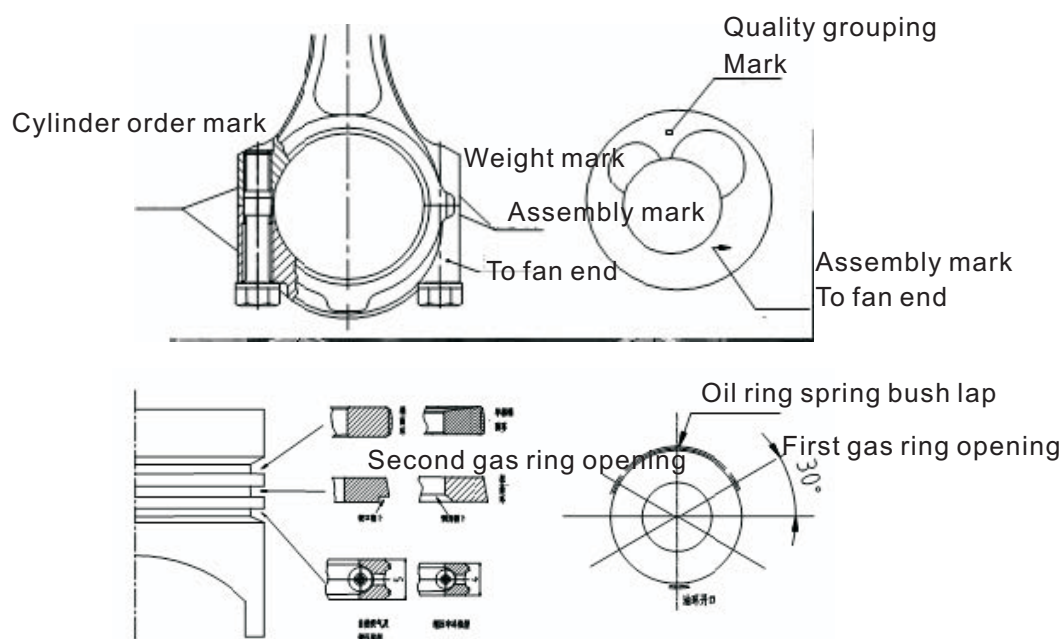

Fig. 4-8 Assembly of connecting rod piston and ring
The piston rings adopted for naturally aspirated, supercharged, and supercharged & intercooled engines have been described in Section 4.1.1. The difference in three models is as follows: (1) The piston rings and ring grooves on piston for naturally aspirated and supercharged models have the same installation dimensions (thickness of oil ring of 5mm). However, the chromate treatment is adopted for the excircle of first ring of naturally aspirated model, with sprayed molybdenum treatment for supercharged model. The second ring is universal for these two models rather than the oil ring due to different surface treatment. (2) The third piston ring and the corresponding piston ring groove of supercharged & intercooled model are different with that of naturally aspirated and supercharged models. For supercharged & intercooled model, the first ring adopts the single-sided keystone ring and the second ring adopts the torsional ring, and the thickness of oil ring is 4mm. The installation direction of second rings of three models must be shown in Fig. 4-5. That is, for the second ring, the excircle notch faces downwards for the naturally aspirated and supercharged models and the fillet chamber faces downwards for the supercharged & intercooled model. For assembling the oil ring, first assemble the spring expander ring into the ring groove to connect the lap and then assemble the oil ring on the spring expander ring to stagger 180 ° between opening and lap. The piston ring should rotate freely in the ring groove, with the angle between first ring and piston pin axial line of 30°. The openings of second and third rings should be staggered 120° (see Fig. 4-8).